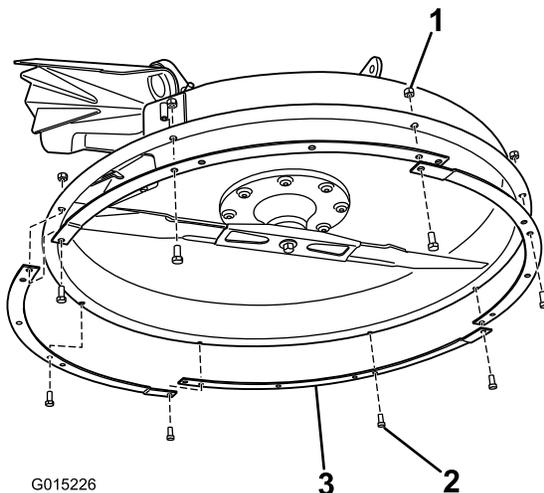

Figure 12
1. Install the interlocking deck rings to the bottom of the mower (Figure 12).